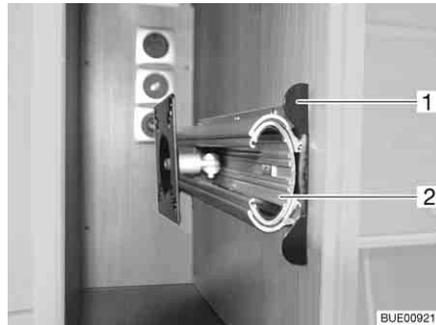

Fig. 62 Holder in the TV cabinet
- Push the unlocking bar (Fig. 62,1) in.
- Pull out the extension (Fig. 62,2) as far as possible.
- Push in the extension (Fig. 62,2) until the unlocking bar (Fig. 62,1) engages.